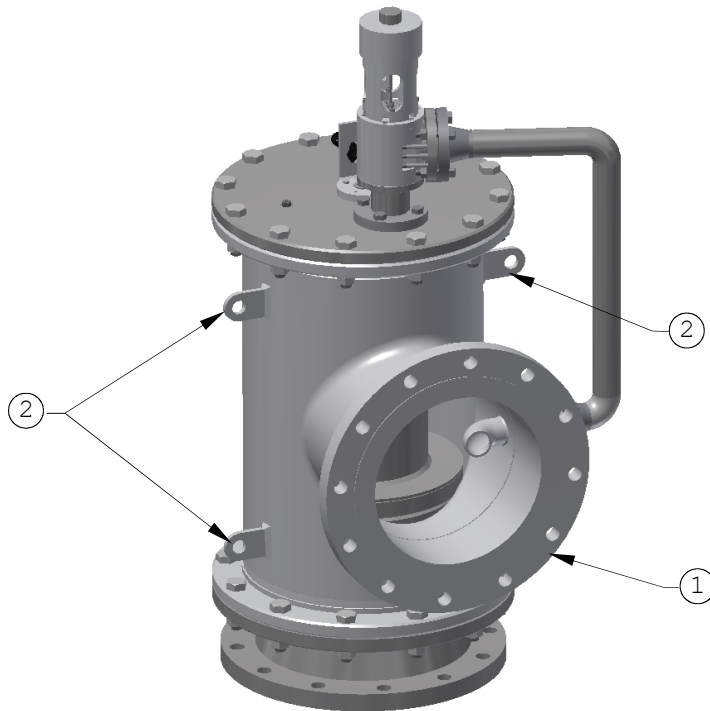

Figure 2: BPPV with Lifting Lug Locations
1. All BPPV sizes are provided with 4 lifting points built-in into its Main body as shown in Figure 2. The nominal weight of the BPPV is indicated in Table 1 below.